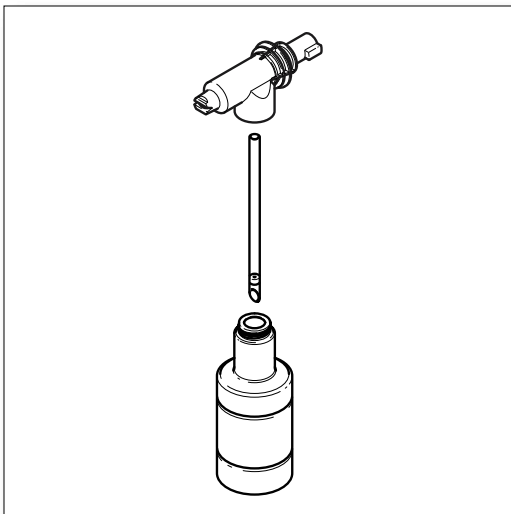
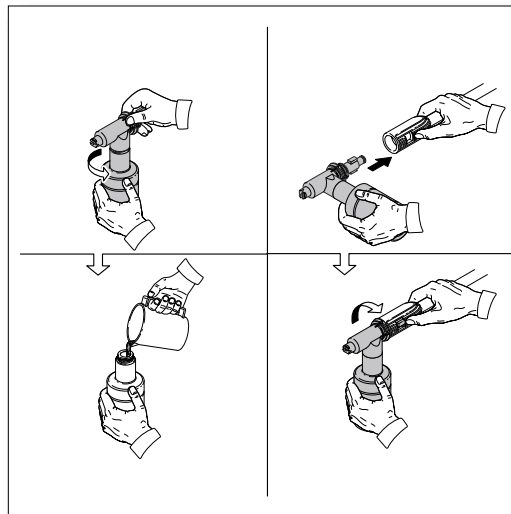

Fig. 11
Fig. 12
- When using the detergent bottle, fill it with a properly formulated detergent or cleaner with a water ratio according to instructions on the container (**Fig. 11**). The detergent bottles comes with a straw which is fitted into the screw-on top. If you do not see the straw, look inside the bottle and attach it to the screw-on top. (**Fig. 12**)